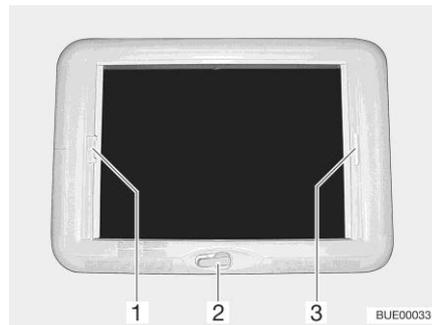

Fig. 126 Wind-up skylight
- Opening:** ■ Rotate the hand crank (Fig. 126,2) until a resistance can be felt.
- Closing:** ■ Pull the handle of the Roman shade (Fig. 126,3) and release in the desired position. The Roman shade will stay in that position.
- Closing:** ■ Pull insect screen at the handle (Fig. 126,1) to the opposite handle of the Roman shade (Fig. 126,3) and allow to engage.
- Opening:** ■ Press the handle of the insect screen (Fig. 126,1) at the back upwards and detach the insect screen from the Roman shade (Fig. 126,3).